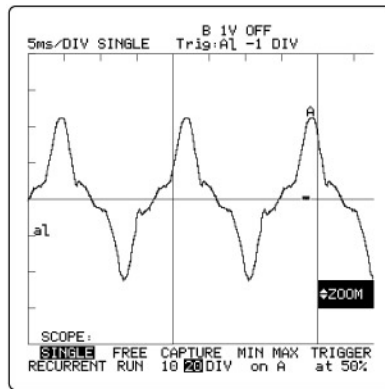

Figure 4. Phase current.
**Transformer** – Current measurements (see Table 1) were taken on the neutral and on each phase of the transformer secondary using both a true-rms multimeter and an average-responding unit. A 600 A clamp-on current transformer accessory was connected to allow them to make high current readings. The current waveshapes are shown in Figures 4 and 5.